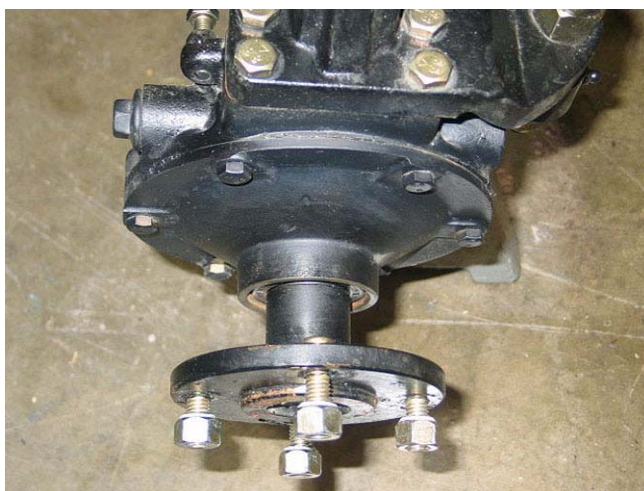

Figure 1.9
- 1.9. The outside edge (measured at the top) of the axle flanges on the 5000 are 3 1/2" (8.9 cm) out-board of the seam where the axle cover meets the drop axle housing. See Figure 1.9.